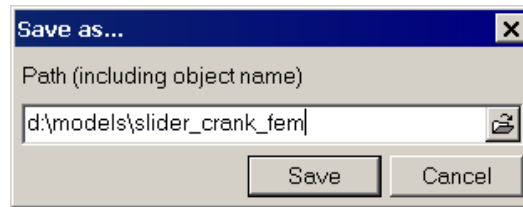

Figure 2.22.
1. Save the model as **Slider\_crank\_fem** (**File/Save as** menu command), see Fig. 2.22.